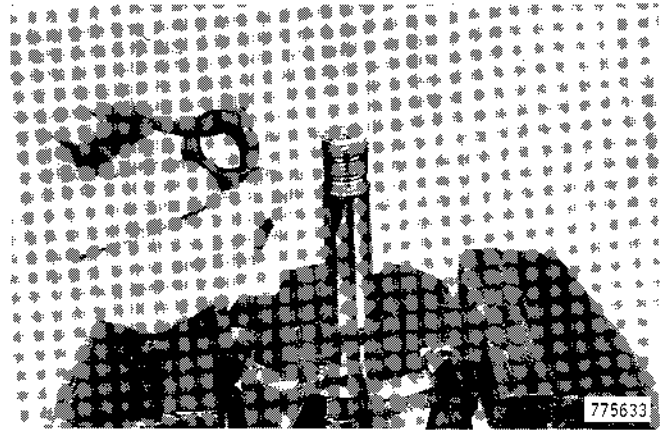

Figure 38
4. Install spacer on rotor shaft, Figure 38. This spacer is the longer of the two spacers used on the rotor shaft.